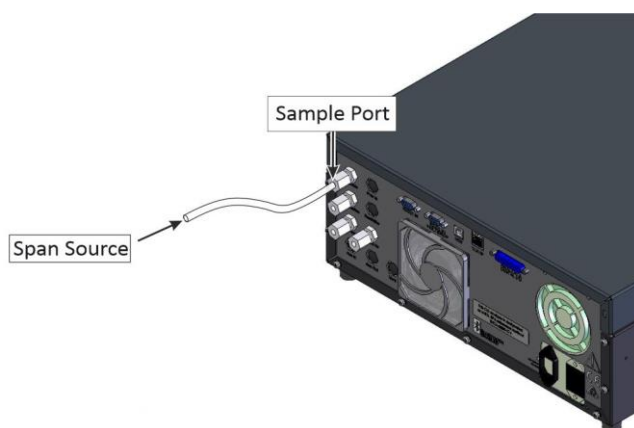

Figure 118 – Span Calibration Set-up - 2
1. Refer to Figure 118. Ensure suitable span source is connected to the **Sample Port**.